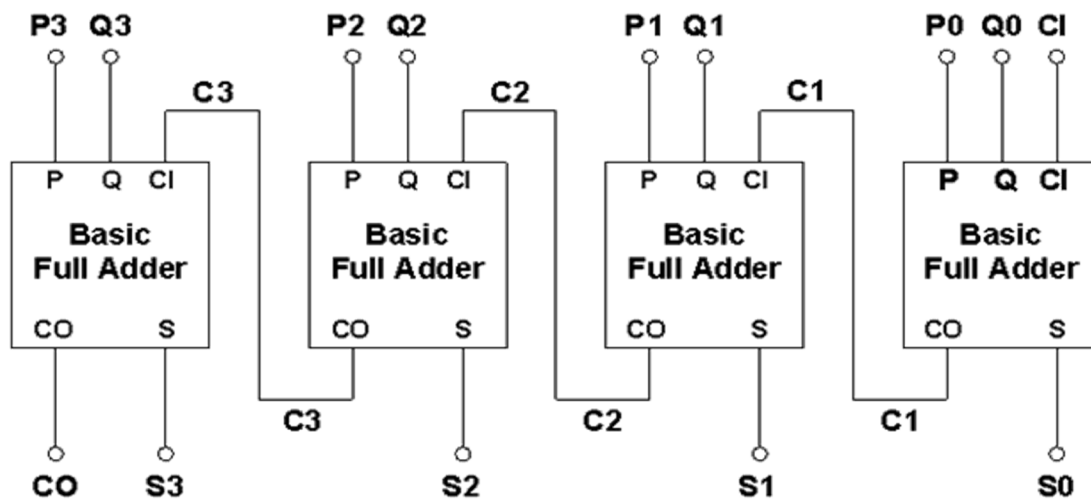

Figure 1. Example: 4-bit parallel adder architecture
1. Pipeline architecture of your 6-bit design, similar to Fig. 1 of 4-bit pipeline adder architecture except there are **6 pipeline stages**.